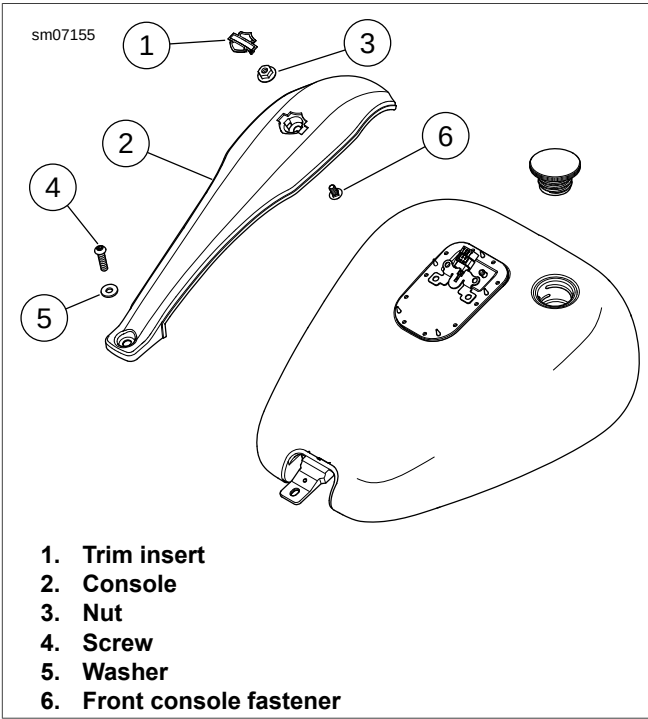

Figure 4-12. Console, Typical (FXS Shown)
2. See Figure 4-12. Remove trim insert (1) from console (2).
3. Remove nut (3) from front of console.
4. Remove fastener (4) and washer (5) from rear of console.
2. See Figure 4-12. Install washer (5) and screw (4) to rear of console. Tighten screw to 18-22 ft-lbs (24.4-29.8 Nm).
4. Install trim insert (1) on console (2).